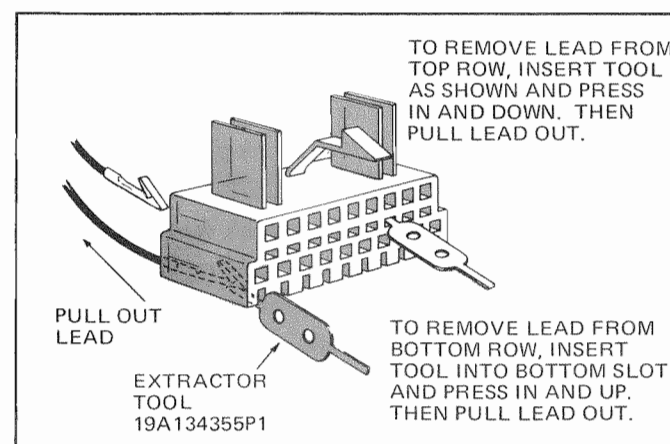

Figure 6. Using Extraction Tool
- Tape the plug(s) and retaining hook and run the Control Cable to the vicinity of the Control Unit. If it is necessary to disassemble the 19-pin plug(s) to run the cable, use the extractor tool as shown in Figure 6. Mark the plugs for identification, and write down the wire colors and hole numbers as the wires are removed from the plug(s).